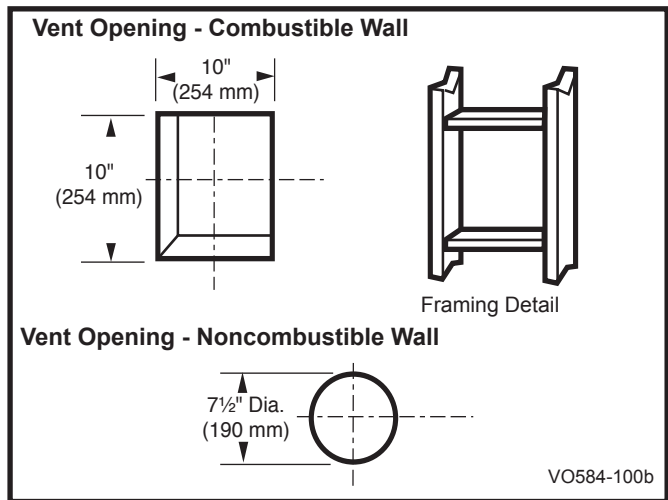

Fig. 21 Locate vent opening. **NOTE: Zero clearance sleeve is required for combustible wall installations.**
1. Locate the vent opening on the wall. Refer to Figures 20 & 21 to determine the top of the opening center-line. It may be necessary to first position the stove and measure to find the hole location. Depending on whether the wall is made of combustible materials, cut the opening to the size shown in Figure 21. Combustible wall openings must be framed as shown in Figure 21.